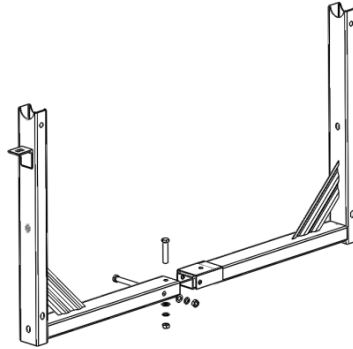

Fig.4
- Connect the left frame (3), p.13 to the right frame (10) as shown in figure 4.